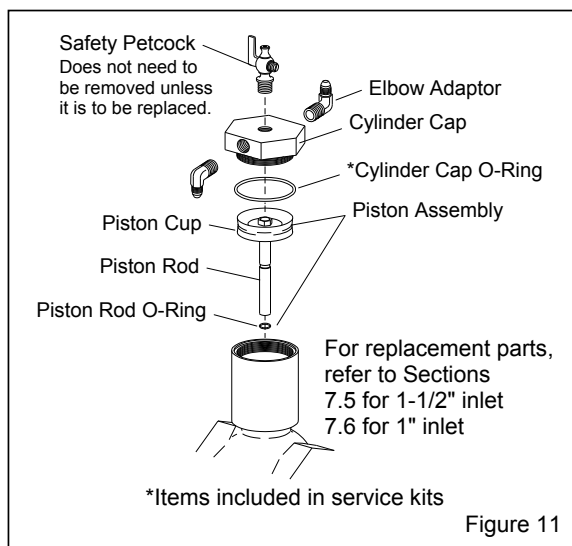

Figure 11
5.1.2 Top Section, Refer to Figure 11